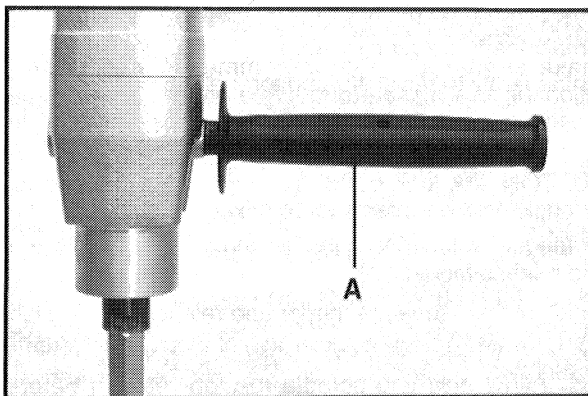

Fig. 3
An auxiliary handle (A), Fig. 3, is furnished with your machine and can be installed on either side of the front housing. This handle **SHOULD BE USED AT ALL TIMES** to maintain complete control of the machine.